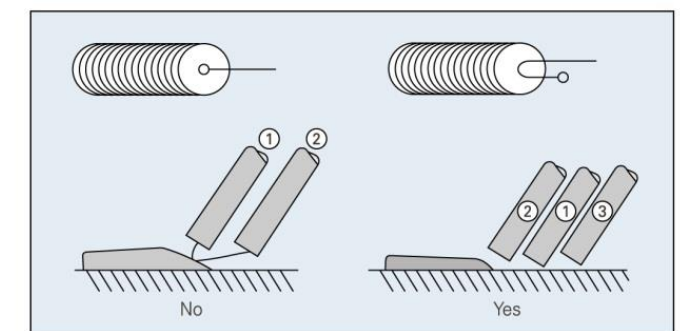

Fig. 5: The backstep technique prevents porosity at the arc starting area of the weld bead.
- Use the backstep technique at arc starting to prevent the occurrence of porosity at the starting area of the bead as illustrated in Fig.5. This is common practice for all low hydrogen type electrodes.